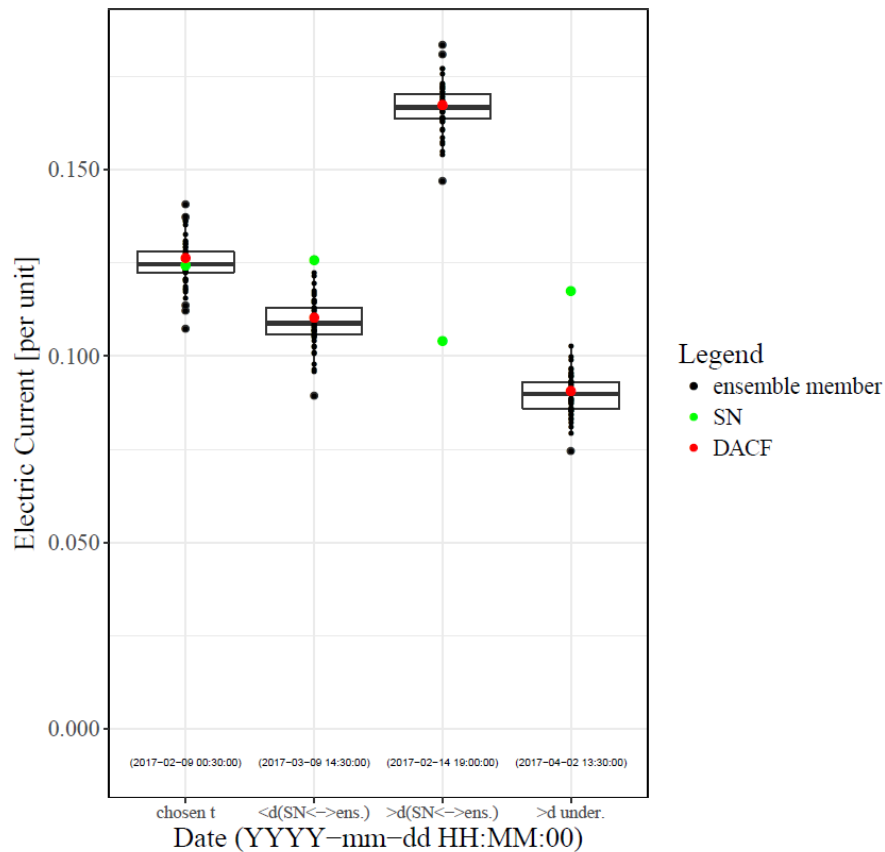

Figure 5 – Illustration of computed boxplots (univariate analysis)
- **Boxplot.timestamp:** defines the chosen timestamp for boxplots computation (in format YYYY-mm-dd HH:MM:00), like the one illustrated in Figure 5.